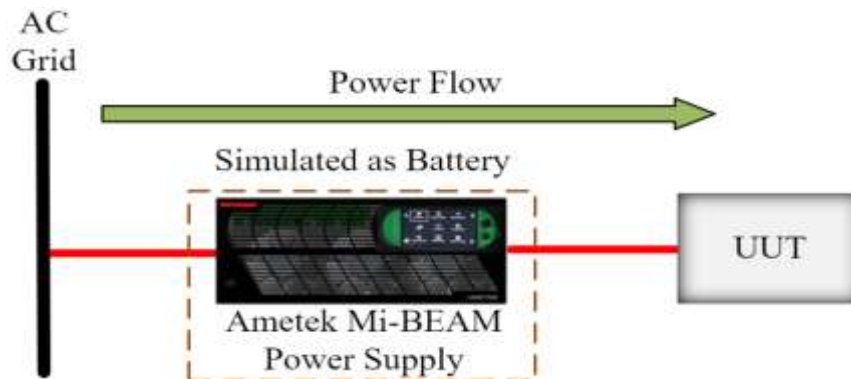

**Figure 6-8. Battery simulation-discharge mode**
- b) **Battery Simulation-Discharge Mode:** The Mi-BEAM Series power supply regulates voltage to simulate battery charge characteristics, with the current direction being positive. Based on the current drawn by the UUT, the instantaneous SoC is calculated. The output voltage is varied as per the battery characteristics defined by the user. The Mi-BEAM Series power supply functioning in battery simulation discharge mode is shown in Figure 6-8.